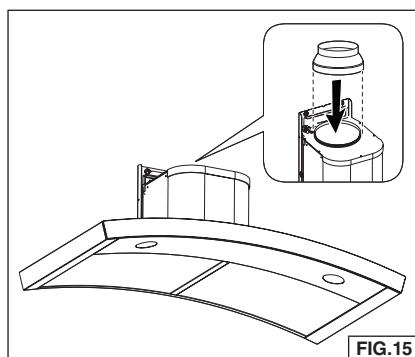

FIG.15
1. Install discharge collar supplied with the range hood. Fig. 15.
2. Attach the 6"-to-8" adapter to blower discharge and tape joint with aluminum duct tape. Fig. 15.